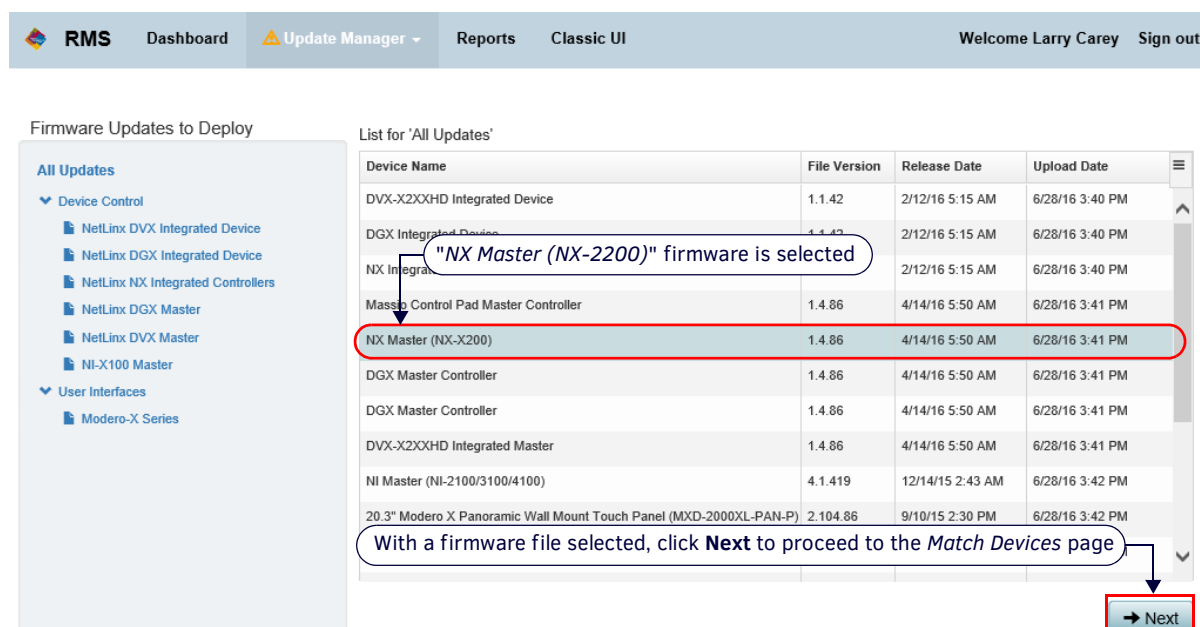
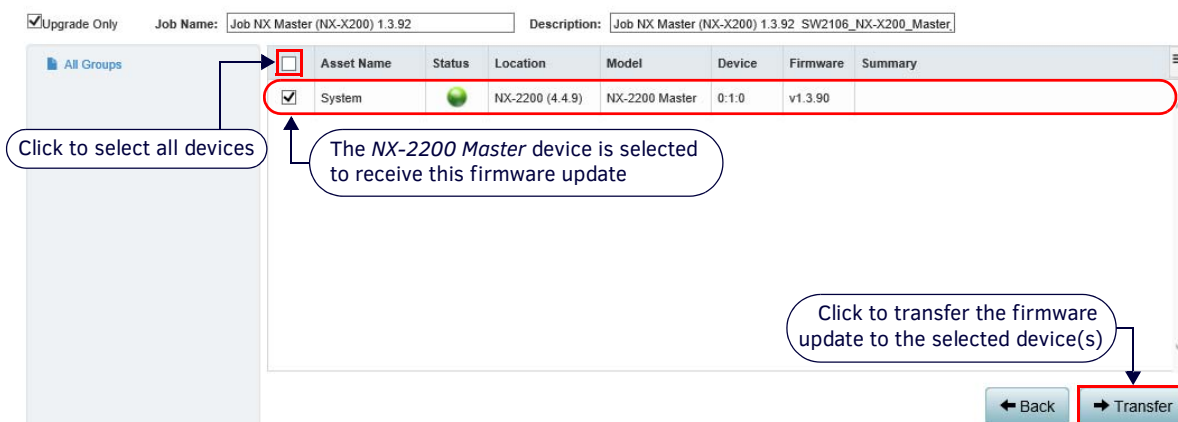

FIG. 36 Firmware Updates (Files) page
FIG. 37 Firmware Updates (Devices) page
3. This opens the **Firmware Updates (Files)** page, indicating all device firmware files that are available to deploy (FIG. 36):
- In some cases, several different AMX devices may use the same firmware file. For example, all G5 touch panels use the same firmware, regardless of the specific model. Likewise, all of the Device Control devices indicated in FIG. 36 use the same Master firmware.
In these cases, it does not matter which file is selected in the *Updates (Select Files)* tab because they are in fact representing the same firmware. Note that in FIG. 36, the *File Version*, *Release Date* and *Upload Date* are identical for all three devices listed. This is an indication that these devices are using the same firmware file.
4. Select a file to deploy (for example, "NX Master" is selected in FIG. 36), and click **Next** to proceed to the **Devices** page. Use the options in this page to select specific devices as targets for the selected firmware update (FIG. 37):
This page lists all system devices that use the selected firmware file. In the example shown in FIG. 37, there is only one device (a NX-2200 Master) that can use the selected firmware file.